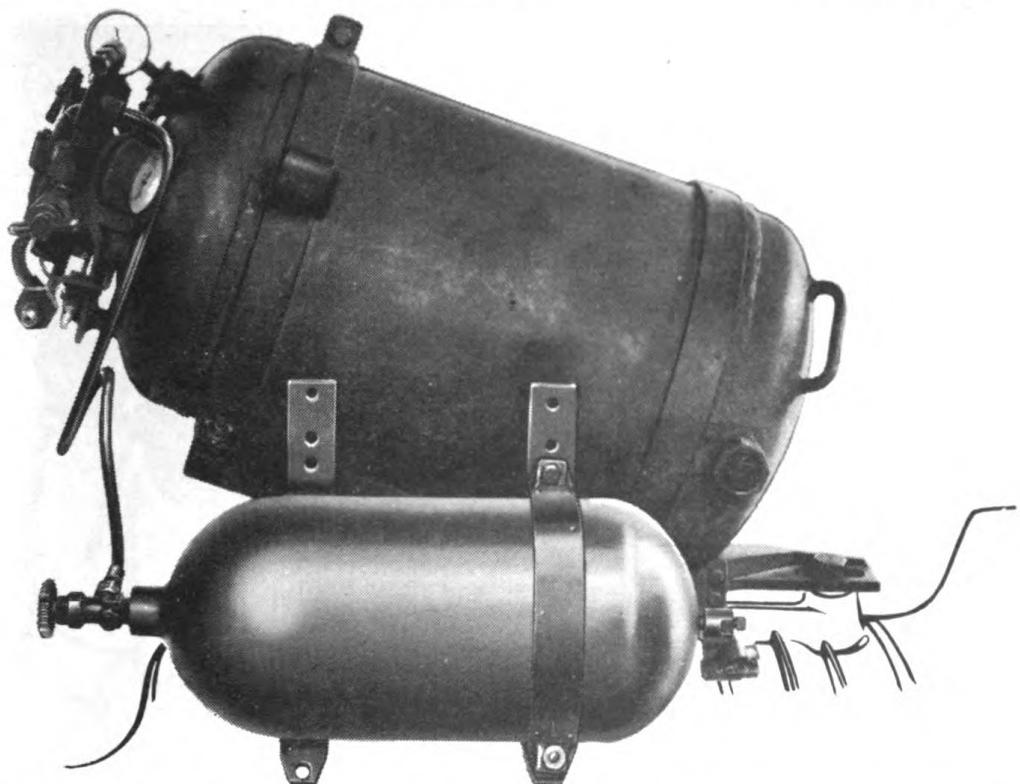

Fig. 35. Pressure container, right front pressure container strap, and loop installed on transmission fuel group.
f. Pressure container. (1) Place pressure container on back pressure container straps and hold container in place by inserting bolt through right front pressure container strap. Remove thread protector cap from pressure container valve. Align outlet of pressure container valve with connection on end of loop. Connect loop to pressure container valve (fig. 35). Install left front pressure container strap. Tighten both ends of each strap evenly so gaps between "ears" at ends of each front and each back strap are equal; otherwise, there will be insufficient space on the top strap to insert gun rack.
(2) Tighten nut on end of loop adjacent to pressure container. Tighten union nut at pressure cut-off valve.